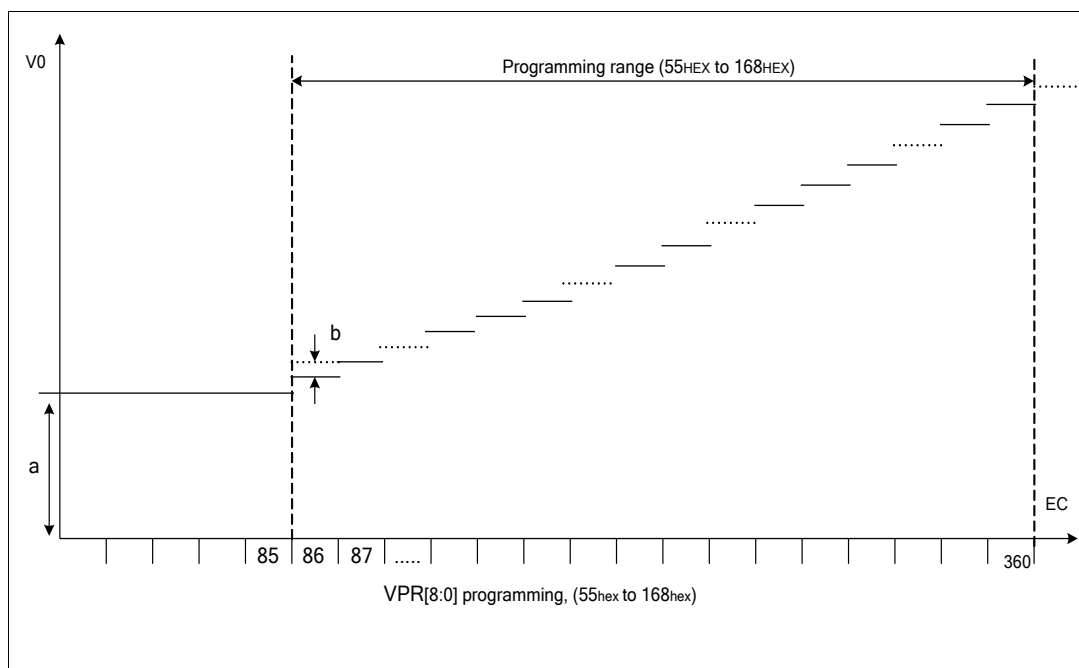

Fig. 7.11.2 V₀ programming range
The VPR[8:0] value must be in the V₀ programming range as given in Fig.7.11.2. Evaluating equation (1), values outside the programming range indicated in Fig.7.11.2 may result.